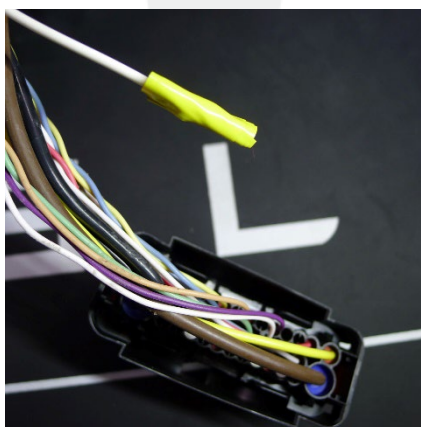

Figure 15
16. Cut the terminal from the white wire, and then wrap the wire end with yellow tape (Figure 15).